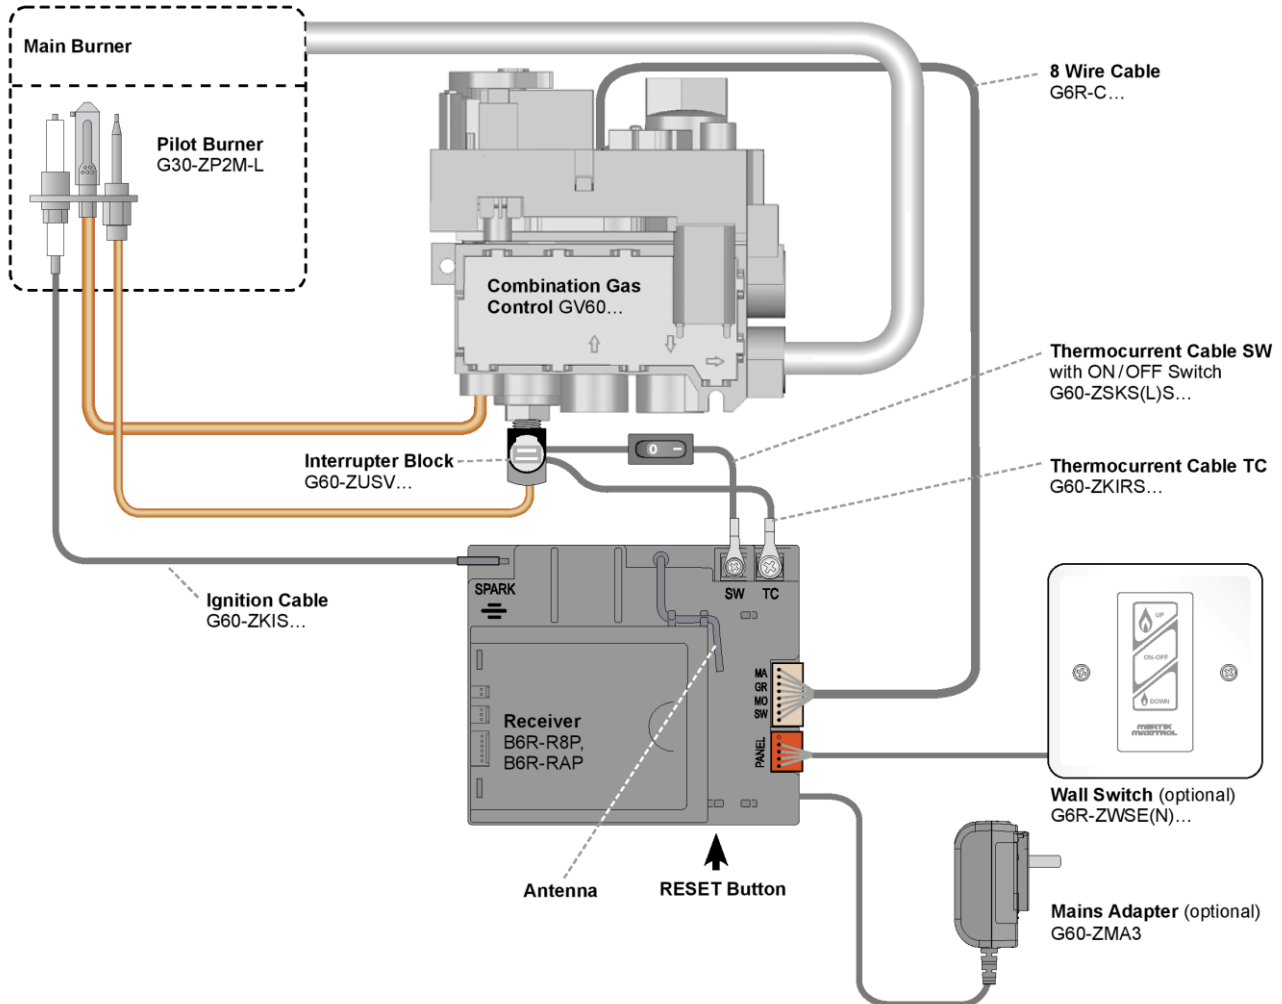

Figure 17: Valve/Receiver Wires and Interrupter Block
5. Verify that all wire connections are tight. Then, check that the interrupter block is screwed in tightly but not too tightly (tightening the interrupter block too much will break it). Refer to Figure 17 on page 91 for details.
- b) Disconnect the wire for the spark wire. Refer to Figure 17 on page 91 for details.
Perform these steps to check the thermocouple. Refer to Figure 17 on page 91 for details.